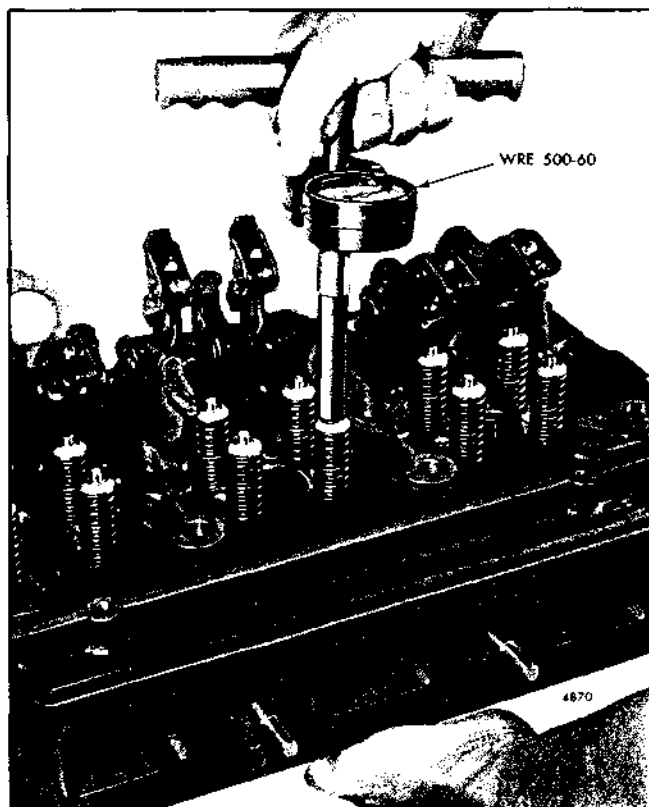

Fig. 16 - Checking Valve Opening Pressure
10. With the exhaust valves installed in the cylinder head, use spring checking gage WRE -500-60 and note the gage reading the moment the exhaust valve starts to open (Fig. 16). The minimum pressure required to start to open the exhaust valve must not be less than 33 pounds for a two valve cylinder head or 25 pounds for a four valve cylinder head.